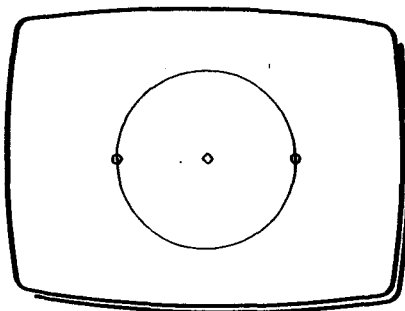

Fig 3
- 3 **T**wo small cursors will mark the circumference of the circle and a small diamond will mark the centre of the circle (Fig 3).